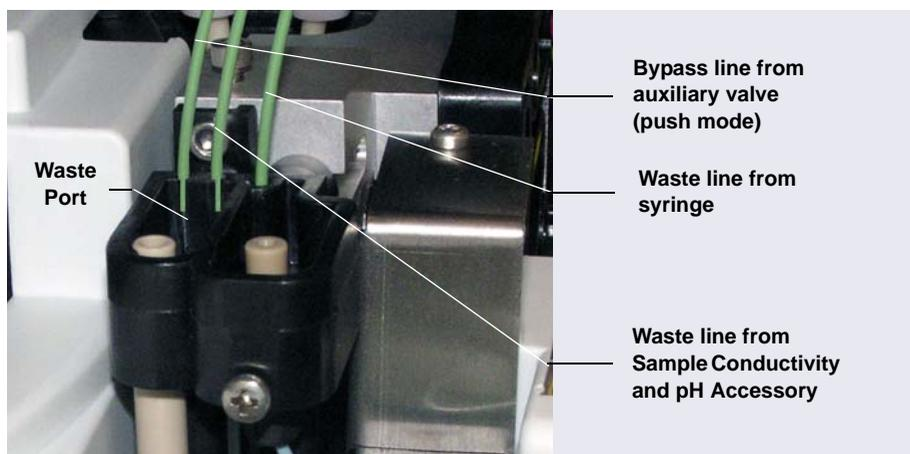

Figure 13. Sample Conductivity and pH Accessory Waste Line Installed in Waste Port
2. Continue routing the line to the Dionex AS-AP waste port and insert the line into one of the round openings in the waste port (see Figure 13).